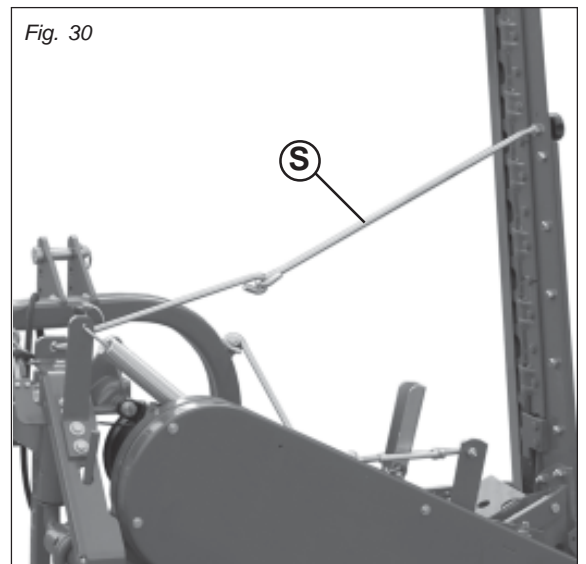

Fig. 30
- Remove tie rod (S, Fig. 30) from the cutting arm.